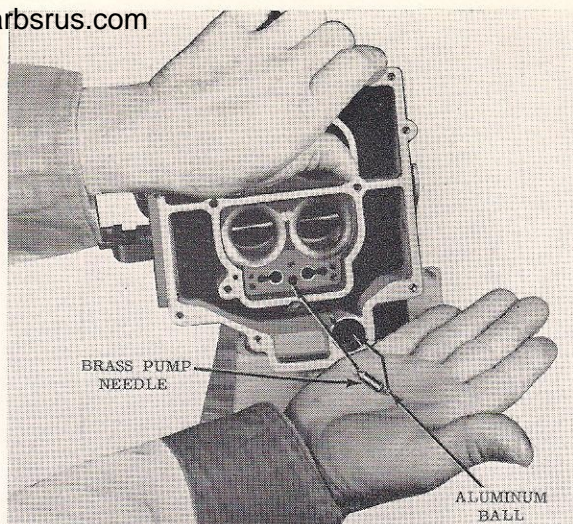

Figure 7-15
7. Carefully invert the carburetor bowl and remove the aluminum pump inlet ball and the brass pump outlet needle. (Figure 7-15.)